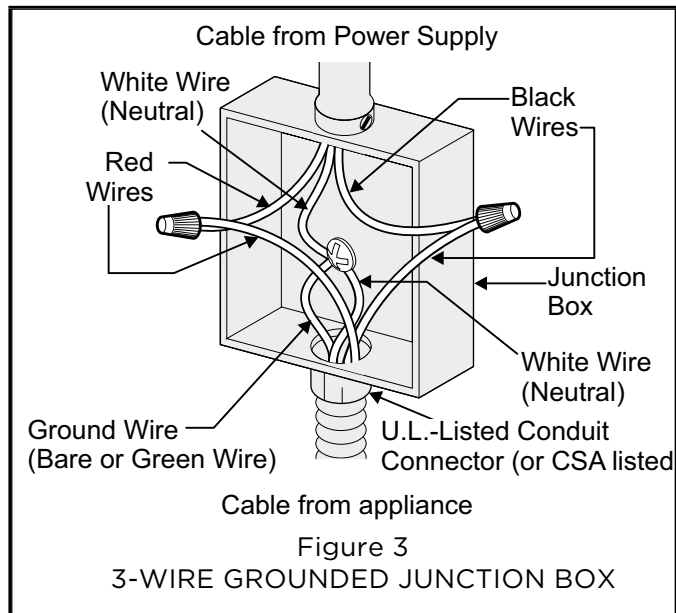
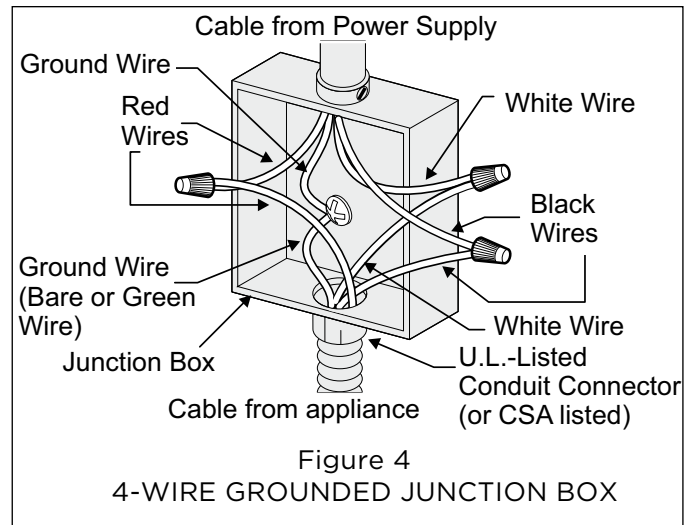

Figure 3
Figure 4
This appliance is manufactured with a white neutral power supply and a frame connected copper wire. The frame is grounded by connection of grounding lead to neutral lead at the termination of the conduit, if used in USA, in a new branch circuit installation (1996 NEC), mobile home, recreational vehicles, where local code do not permit grounding through the neutral (white) wire or in Canada, disconnect the white and green lead from each other and use ground lead to ground unit in accordance with local codes, connect neutral lead to branch circuit-neutral conductor in usual manner see Figure 4. If your appliance is to be connected to a 3 wire grounded junction box (US only), where local code permit connecting the appliance-grounding conductor to the neutral (white) see Figure 3.
Where local codes permit connecting the appliance grounding conductor to the neutral (white) wire (US Only) (see Figure 3):
2. In the junction box: connect appliance and power supply cable wires as shown in Figure 3.
If oven is used in a new branch circuit installation (1996 NEC), mobile home, recreational vehicle, or where local codes DO NOT permit grounding through the neutral (white) wire, the appliance frame **MUST NOT** be connected to the neutral wire of the 4-wire electrical system (see Figure 4):
3. In the junction box: connect appliance and power supply cable wires as shown in Figure 4.